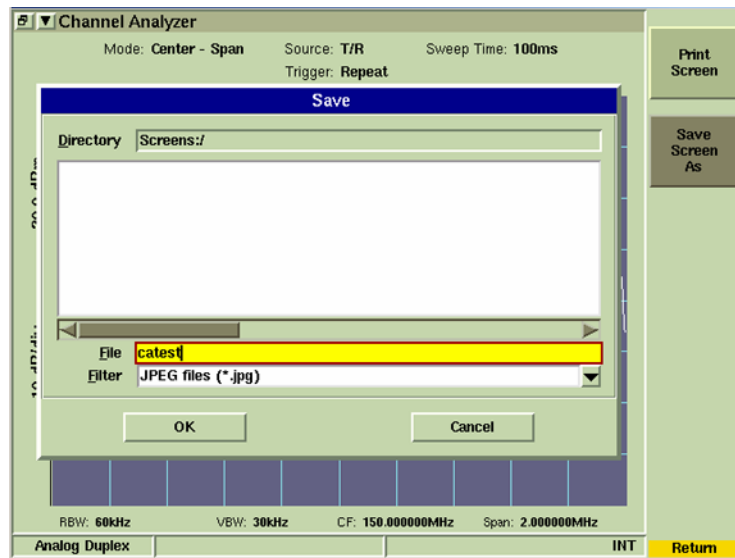

Fig. 3-56 Save Screen As Dialog Box
1. Select the **[Save Screen As]** soft key. A Save dialog box is displayed as shown in Fig. 3-56.